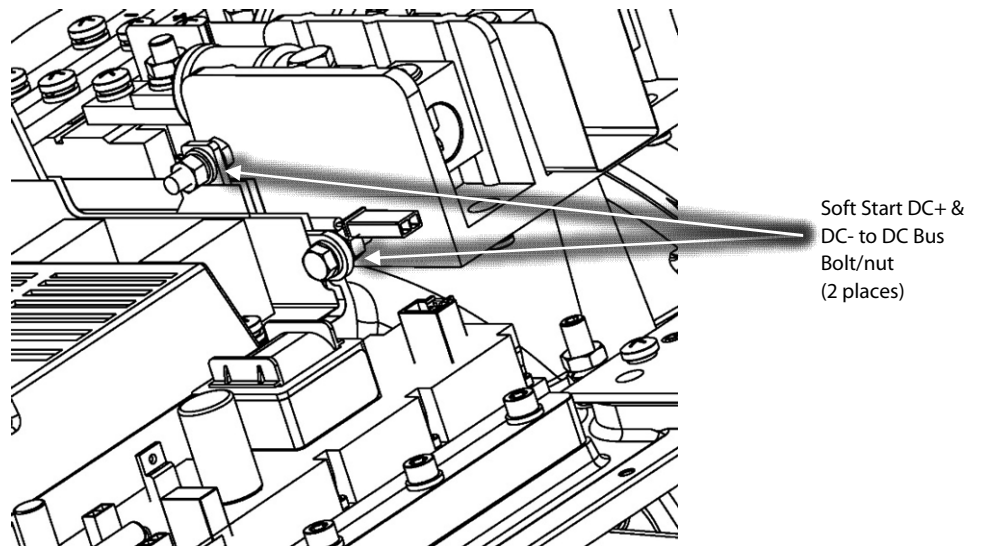

Figure 10 – Soft Start Harness Removal
20. Disconnect the DC+ and DC- of the Soft Start harness from the DC bus assembly noting the orientation. Refer to Figure 10 (Soft Start Harness Removal).
23. Reconnect the DC+ and DC- of the Soft Start harness from the DC bus assembly noting the orientation and torque to specification. Refer to Figure 10 (Soft Start Harness Removal).